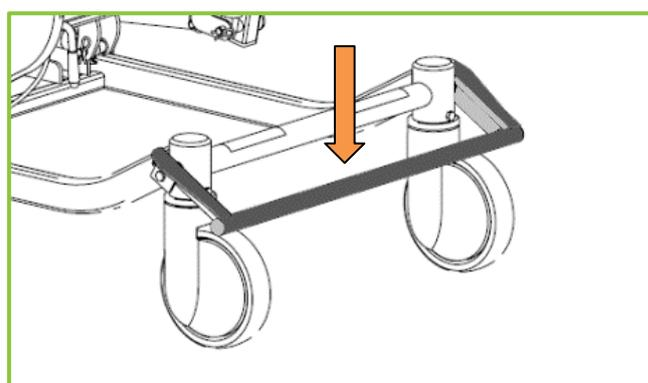

Figure 33 – Brake locked
1. To lock the central brake, press the central brake pedal bar down until the brake locks. Figure 33 shows the brake locked.